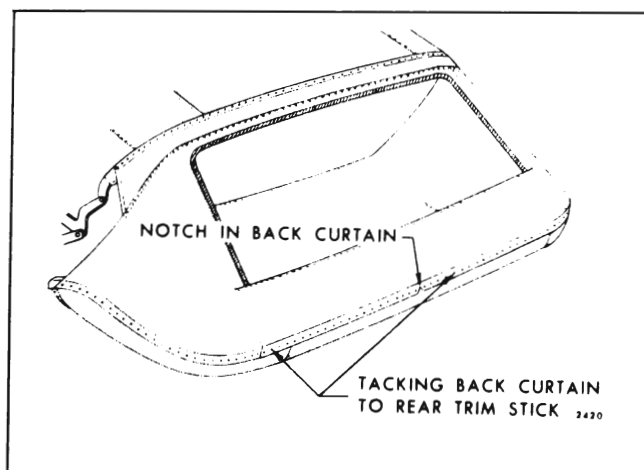

Fig. 13-53 — Back Curtain Installation
NOTE: Notch in back curtain material at lower edge indicates centerline of back curtain assembly. (See Fig. 13-53). In addition, back curtain lower edge should extend approximately 1/2" below lower edge of trim sticks.
5. Tack curtain to rear trim sticks (Fig. 13-53).